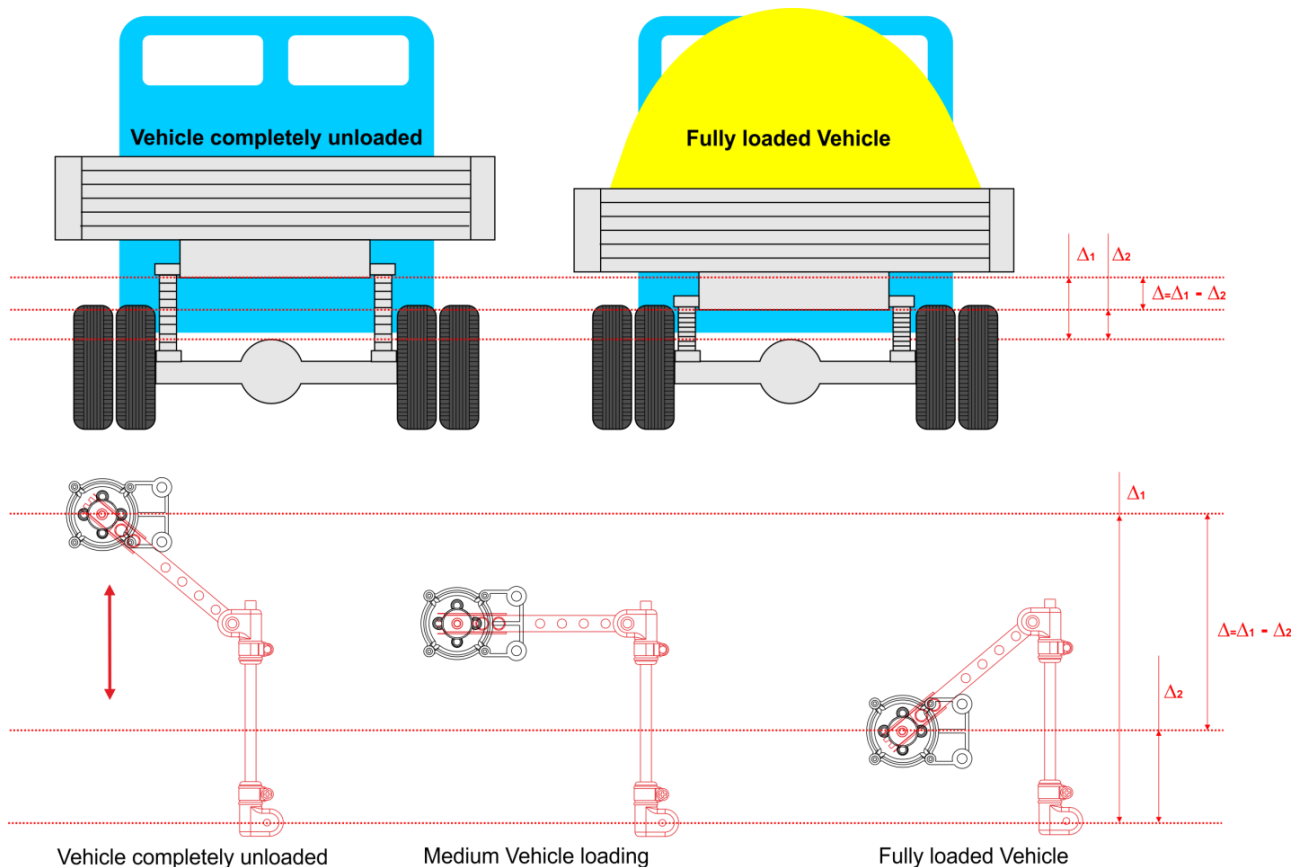

Figure 20 – Defining the Vehicle suspension travel
2) The lever length (L) and the rod length (H) from mounting kit are selected experimentally, specifically on the Vehicle to be equipped. The range of changing the angle of rotation of the lever of the mounted GNOM DP must be within the entire Vehicle suspension travel (Δ) (see figure 20).